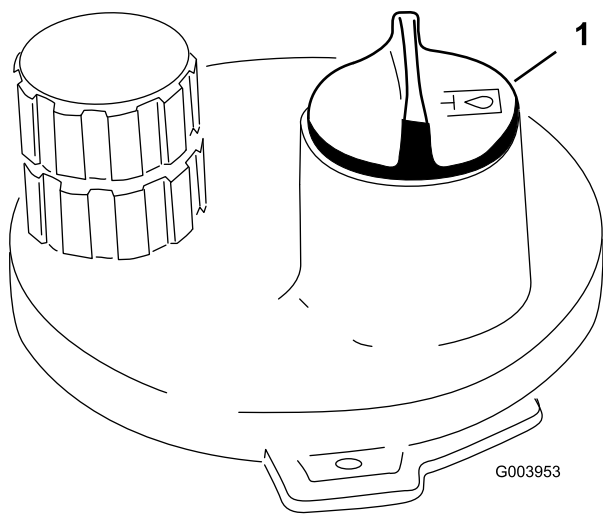

Figure 37
3. Clean area around filler neck and cap of hydraulic tank (Figure 37). Remove cap from filler neck.